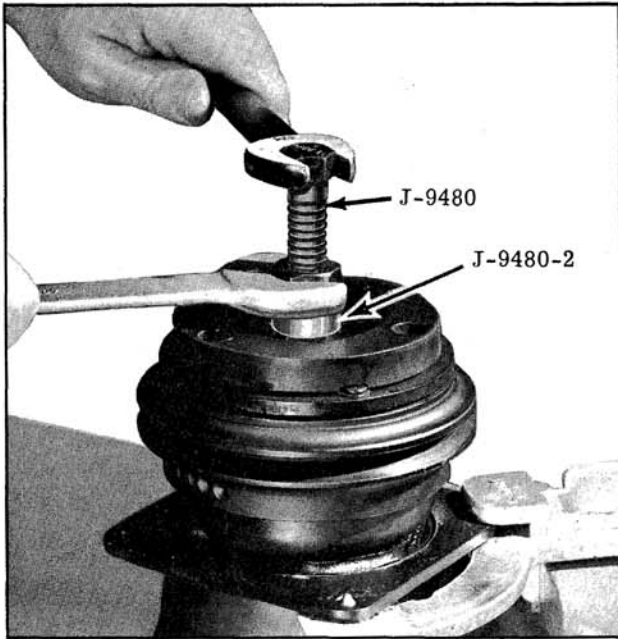

Fig. 14-85 Installing Driven Plate
3. Position the Driven Plate Installing Tool J-9480 on the threaded end of the shaft. The "Free" Washer, J-9480-2, should be in place under the hex nut on the tool. This tool has a lefthand thread on the body. (Fig. 14-85).